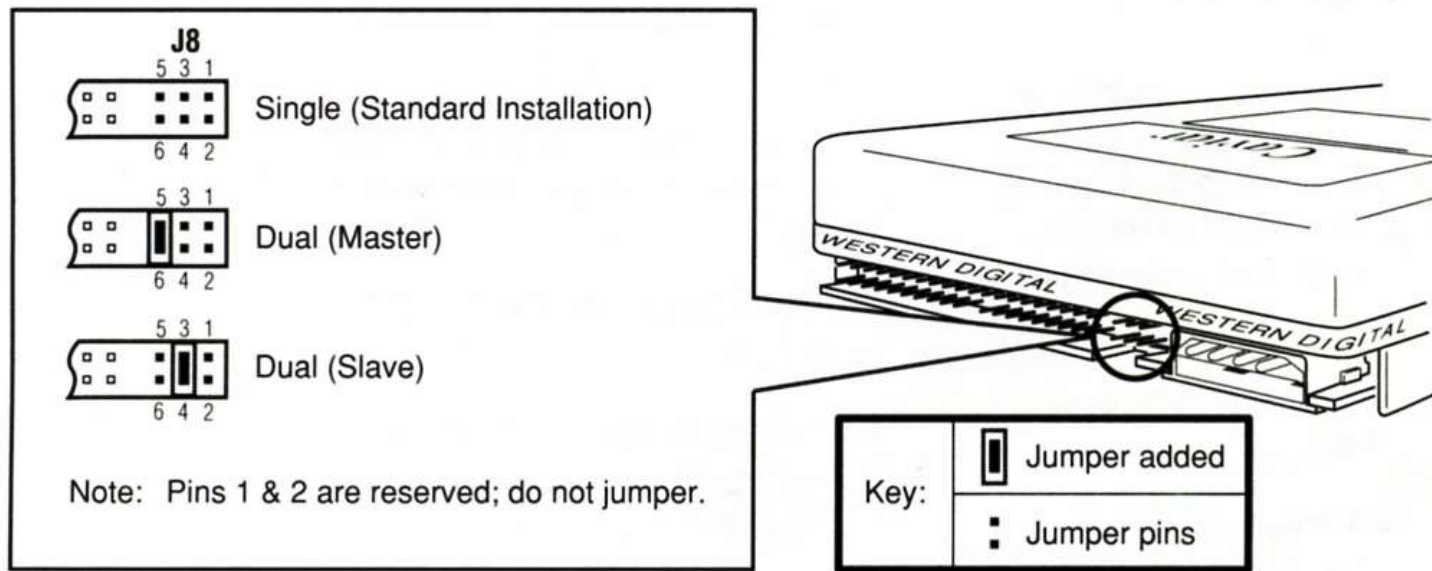

Figure 1. Jumper Settings
Refer to Figure 1 for an illustration of all jumper settings.
1. Refer to the previous descriptions and Figure 1 to determine your configuration.
2. Carefully place the shunt over the two pins specified in Figure 1.